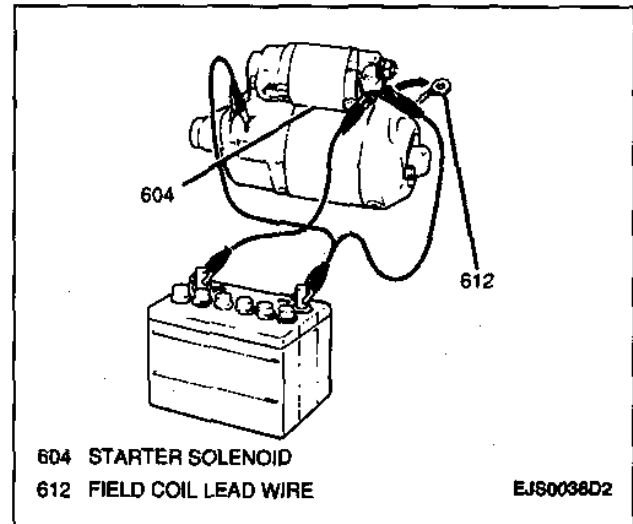

Figure 3—Pull-In Test
### Figures 3 through 5
- Field coil lead wire from solenoid terminal (Figure 3).
- Test leads from battery to starter motor assembly (Figure 3).